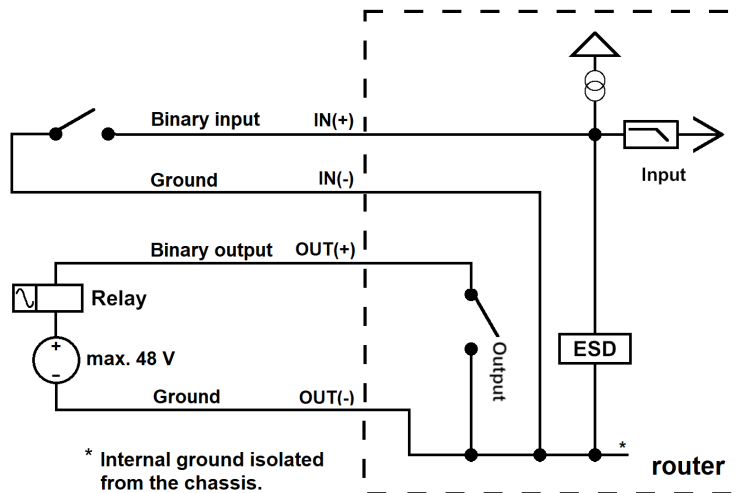

Figure 14: Functional Scheme of the Digital Interface
- i** The thread of the SMA connector for the WiFi antenna is connected to the internal ground, see Figure 14.
The power supply (common pole) is not connected to the metal case of the router nor to the internal ground, see Figure 14.
The I/O user interface is designed for digital input processing and digital output control. For detailed electrical parameters see Chapter 4.5. The functional scheme of connection for the digital input and digital output is in Figure 14.